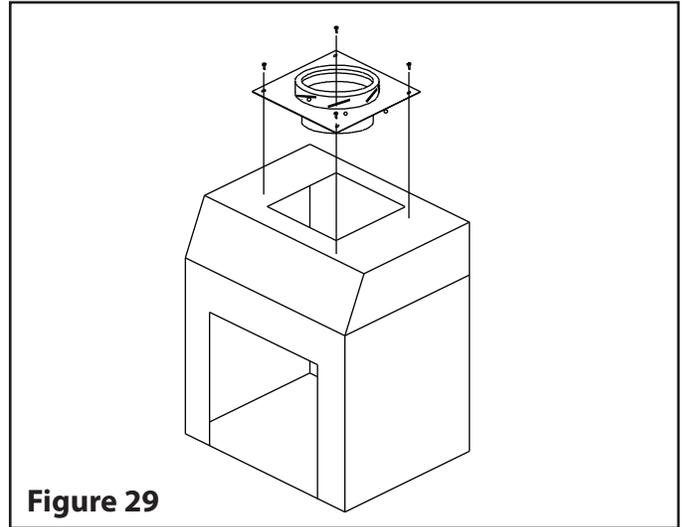

Figure 29
Once the appliance is installed, bolt the Anchor Plate (AP) to it (see Figure 29).